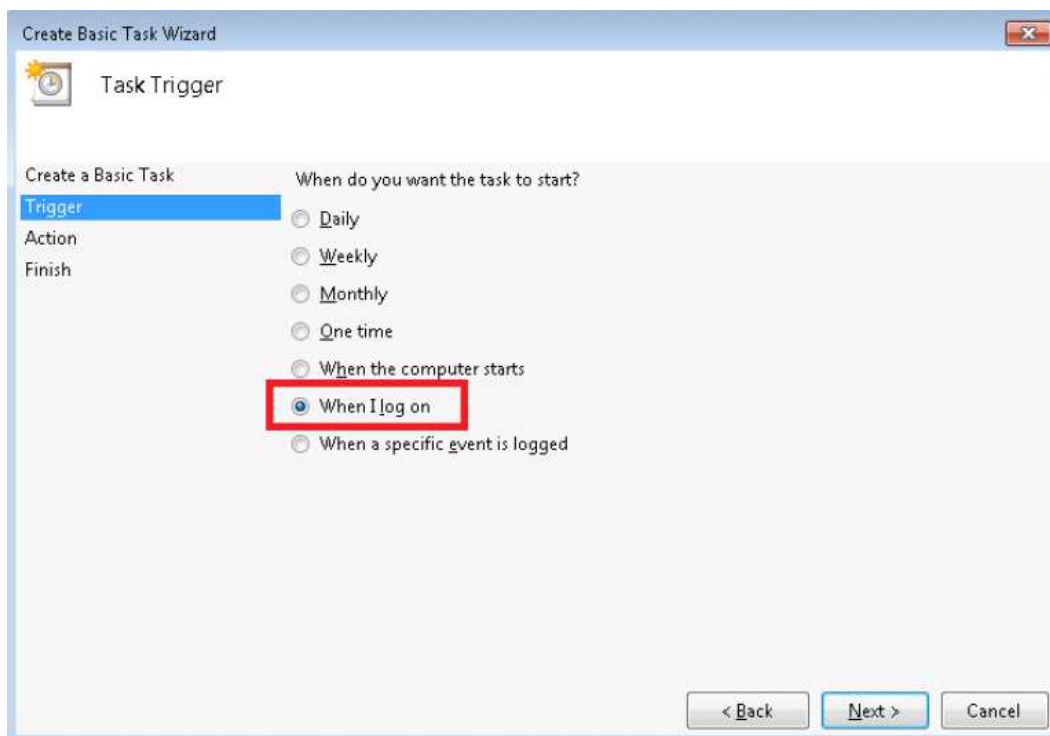

Fig. C.37: Task Trigger window
STEP 4 – In *Create Basic Task Wizard* window please choose *When I log on* option in the *Trigger Task* panel and then click *Next* (Fig. C.37).